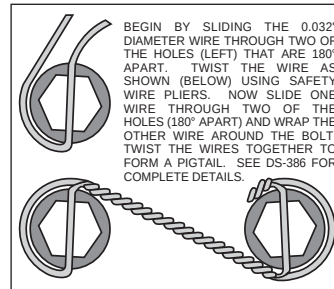

Figure 3. Safety Wire Diagram
- Orient the rotor (5) and the hat (6) as shown in Figure 1 and Photo 2. Attach rotor to hat using bolts (7) and washers (8). Using an alternating sequence, apply red *Loctite*® 271 to the threads, and torque to 155 **in-lbs**. For an added measure of security, the bolts may be safety wired using standard 0.032 inch diameter stainless steel safety wire as shown in Figure 3. Please refer to Wilwood's data sheet DS-386 (available at www.wilwood.com/Pdf/DataSheets/ds386.pdf) for complete safety wire installation instructions.